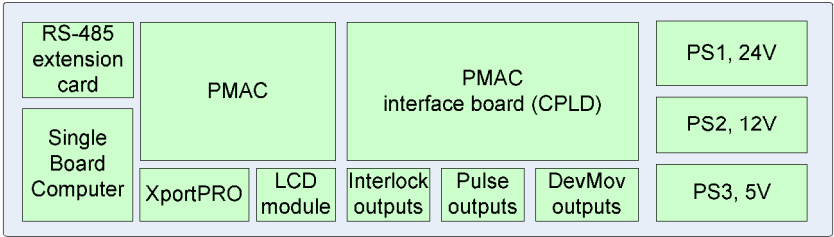

Figure 2: microIOC M-Box block diagram
The microIOC M-Box shown in Figure 2 is a microIOC-based product, offering an advanced motion control functionality and control of general-purpose signals. microIOC is a very flexible software (SW) platform, which provides control of all modules and provides a hosting environment for the control-system application (product benefits and features are described in [2]). Motion control is implemented by a PMAC (programmable multi-axis controller) [3] that handles the motion control of up to eight axes. Additionally, a PMAC interface board was developed that provides voltage translation and optical isolation of signals (addressing large distances and possible noisy environments). This interface board is highly programmable (using a Xilinx CPLD [4]) by the means of mapping signals that pass through the board (signals can be inverted, logically combined, etc). The PMAC interface board also extends the available PMAC's per-axis input/output signals to provide control of additional functionality (such as brake control, interlocks, etc.). To provide communication with remote analog module (for position feedback) an RS-485 communication card with optically isolated outputs (addressing large distances and possible noisy environments) was added.